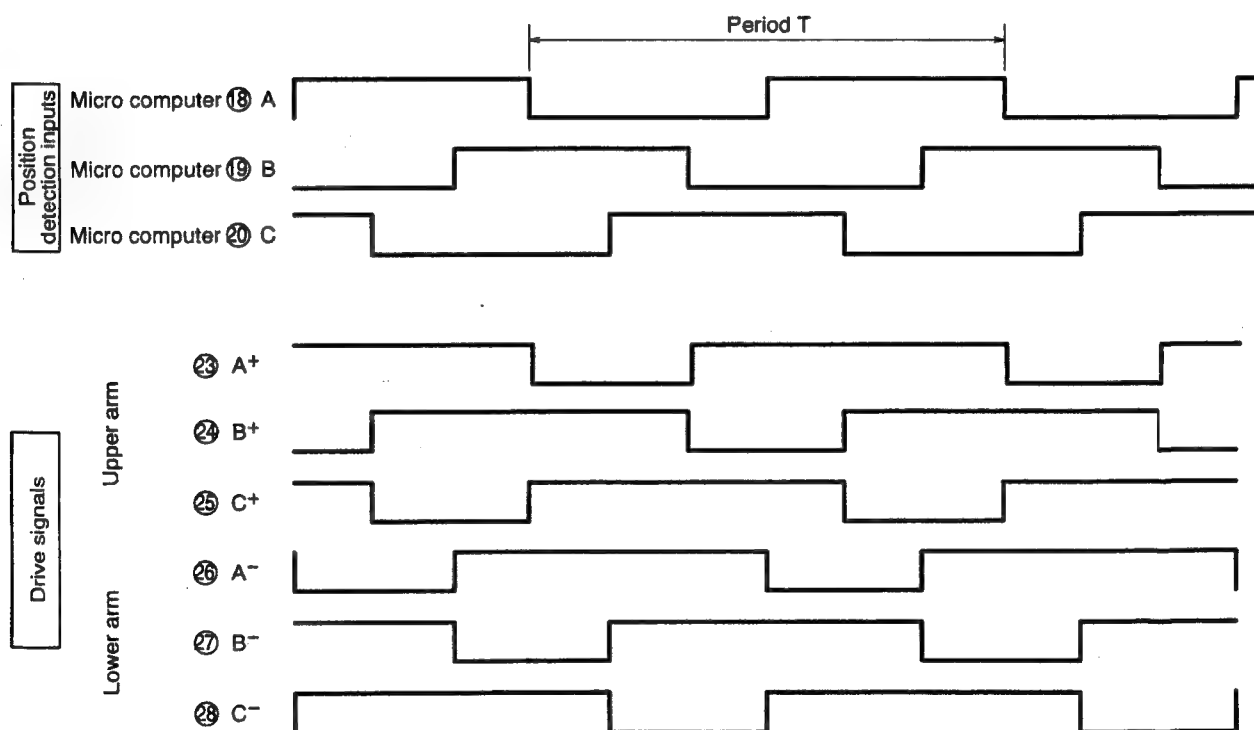

Fig. 6-3
- Fig. 6-3 shows the relationship between the position detection signals and upper/lower arm drive signals.